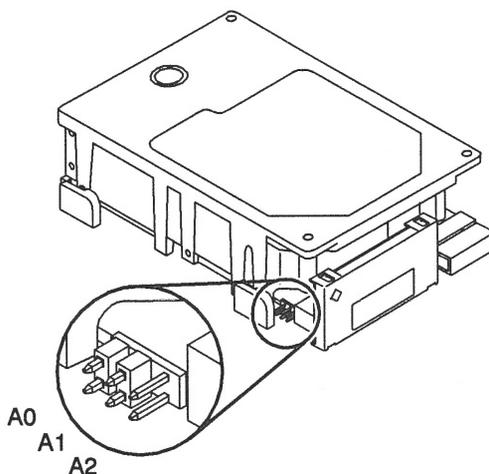

Figure 7-4 Drive Address Jumper Settings
a. Compare the disk drive address jumper settings to the settings shown in Figure 7-4.
If the device address jumper settings are the same as in Figure 7-4, leave them as they are.